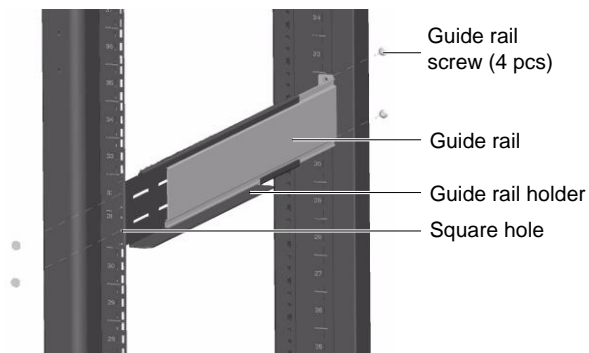

Figure 2-10 Installing guide rail
3) Align the installation holes of the guide rail with the square holes of the rack, fix the guide rail onto the rack with the guide rail screws, each left guide rail and right guide rail need four guide rail screws, as shown in Figure 2-10.